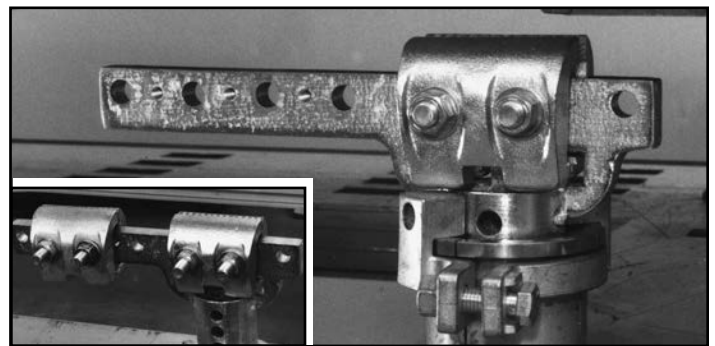

Figure 12
1. Attach one clamp at top of single/dual clamp bar tube, install tube in anchoring stand base, and position stand at front of center section on side of vehicle that must not move with pull. (See Figure 12.) If pinchweld will accommodate an additional clamp, secure it at appropriate location on clamp bar. (See Figure 12 inset.)